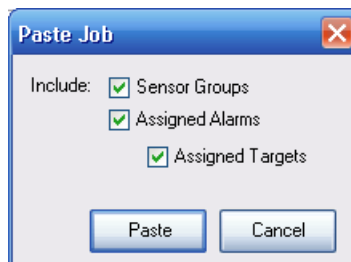

Figure 5-7 - The paste job dialog
- Complete the *paste job* dialog (see FIGURE 5-7). When pasting a job, node and sensor configurations are always pasted. The user can also choose to paste the sensor groups (and sensor-group membership), assigned alarms, and assigned targets.